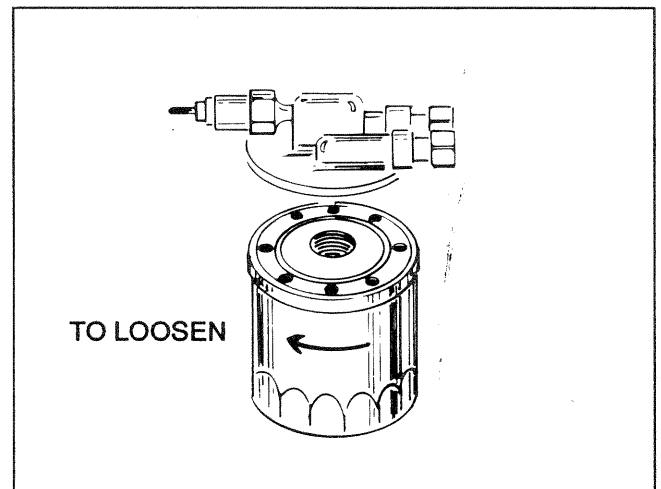

Figure 9. Engine Oil Filter
- Turn oil filter counterclockwise to remove (Figure 9).